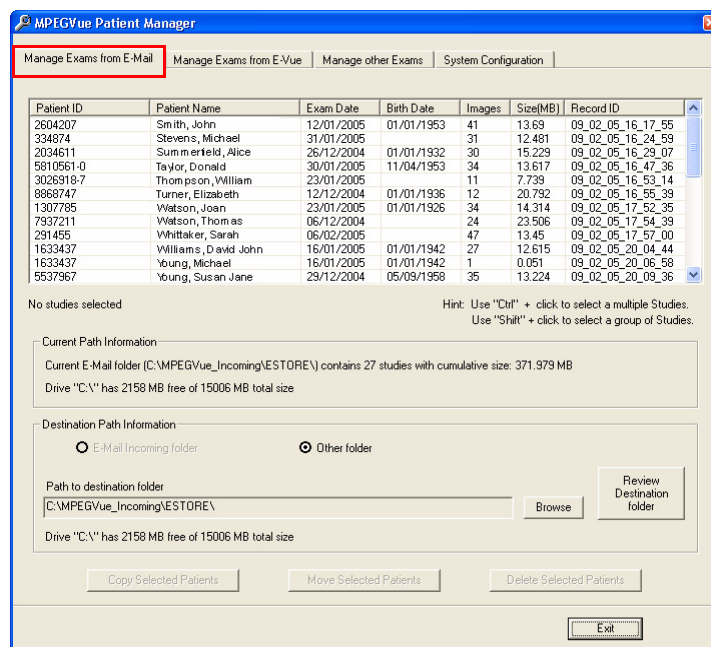

Figure 3-188 MPEGVue Patient Manager Window - Manage Exams from Email Tab
- a.) Make sure the Manage Exams from Email tab is activated as shown in Figure 3-188.